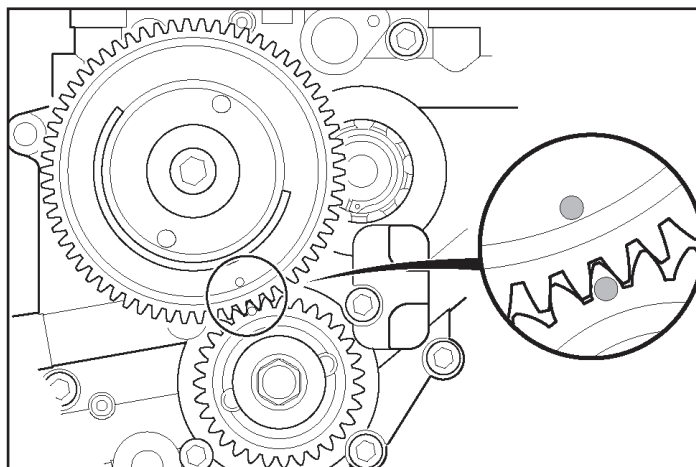

Figure 5
15. Place transmission in high gear and turn rear wheel to rotate engine so that when the crankshaft pinion gear is installed, the timing mark will line up with the timing mark on the rear cam drive gear. **See Figure 5.**